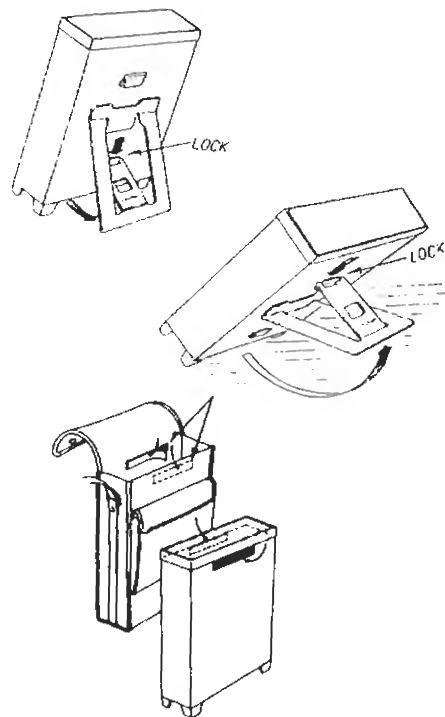

Figure 2-5. Tiltstand operation
In more conventional situations, the instrument can be positioned on a benchtop, riser shelf, or on the floor. If the instrument is placed on a riser shelf above the workbench, leave the Tiltstand (41) in the closed position (as shipped). For benchtop mounting, it is advantageous to have the front of the instrument tilted upward for straight-on viewing. Unlatch the Tiltstand by lifting the bottom-most portion away from the case, then snap the tab slot into the front catch (See Figure 2-5).
If lack of working space requires that the instrument be placed on the floor, you can stand the LBO-325 on end as shipped. The Back-panel Bumpers (38) will support the instrument. You can also position the scope at a high tilt angle by means of the Tiltstand. In this case the tab slot is snapped into the rear catch (See Figure 2-5).